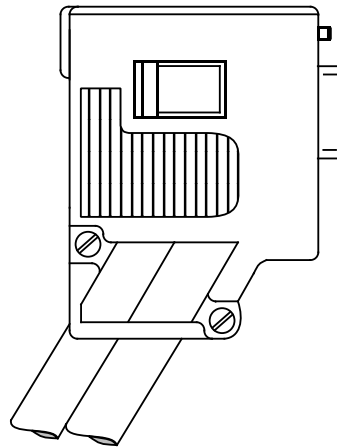

Figure 1-16. L2 Bus Connector with Degree of Protection IP 20 without Connector for a Programmer
- L2 bus connector with degree of protection IP 20 without connector for a programmer (shown in Figure 1-16)